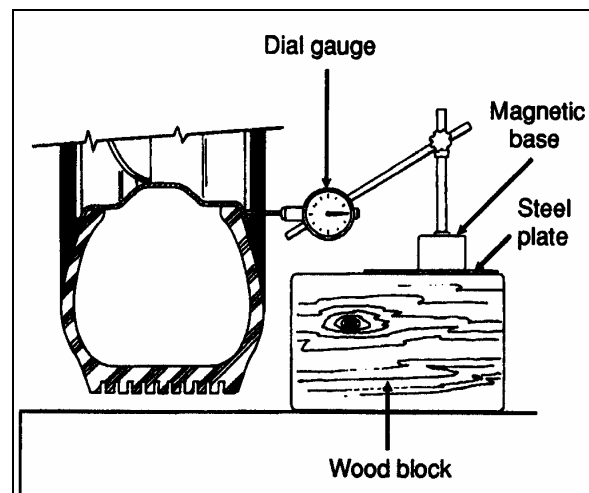

FIGURE 3: DIAL GAUGE INSTALLATION
2. Check wheel lateral runout. Install a dial gauge as shown in Figure 3, then rotate the wheel by hand one full turn. As the wheel turns, note any variation on the dial gauge;